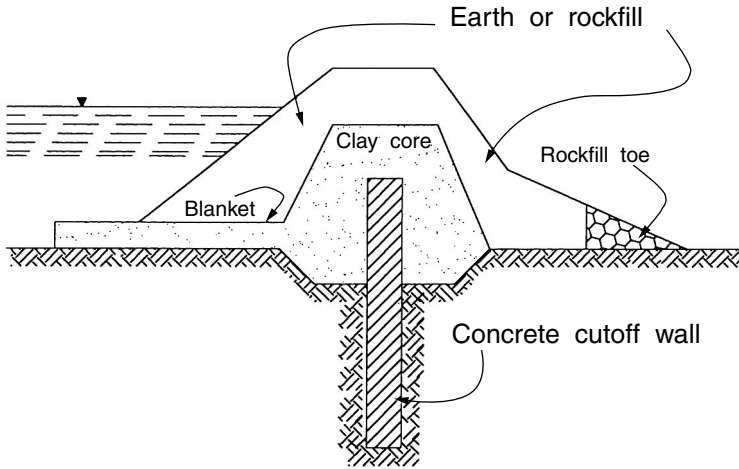

FIGURE E-1 Embankment dam.
**Embankment dam** An earth-fill or rock-fill dam with an impermeable core or upstream blanket to control seepage. The core may consist of silt or clay, with or without a concrete cutoff wall. Side slopes on both faces vary from 1:2 to 1:4. It is one of four common dam types; the other three are arch, buttress, and gravity dams. *See* Figure E-1.